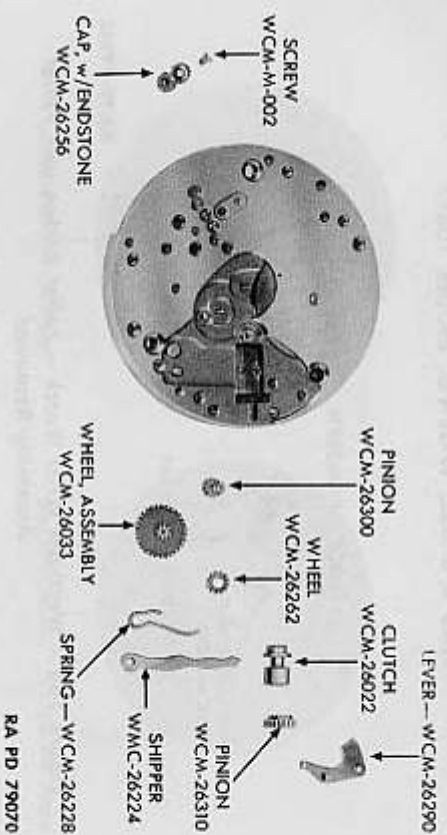

Figure 160 — Waltham Wrist Watch — Setting Mechanism Removed
- k. Remove Setting Mechanism and Lower End Stone Cap Assembly (fig. 160). Remove minute wheel and setting wheel. Remove cannon pinion. Remove minute and setting wheels. To remove shipper lever spring, place end of index finger over shipper lever spring and stud to avoid losing it, and remove shipper lever spring with tweezers. Remove shipper lever. Place index finger on setting lever
**f. Replace Setting Mechanism and End Stone Cap Assembly (fig. 160).** Replace lower end stone cap assembly and secure with cap screw. Replace setting lever, with bent end in toward train side of pillar plate, and with hole above setting lever screw. Place the index finger over the setting lever and invert movement; then turn setting lever screw enough to hold lever in place. Replace winding pinion and clutch in cut-out in pillar plate. Replace shipper on its stud, with end of shipper resting in recess in clutch. Place shipper spring around its stud, hold in position with one screwdriver, and pull long end of spring until it falls into place behind shipper. Replace cannon pinion. Replace minute and setting wheels on their respective studs.